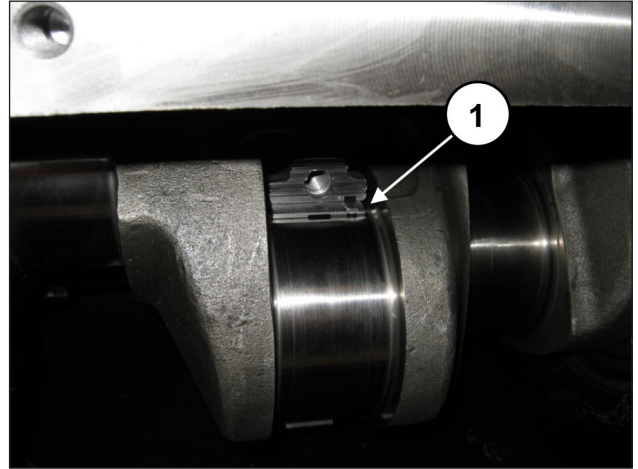

Fig. 65
Insert the upper half-bearings between the con-rods and the shaft (pos. ①, Fig. 65).